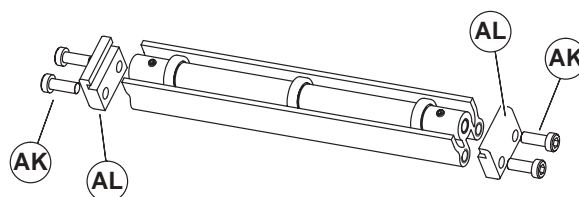

Figure 14
1. Locate return rollers. Exploded view shown in Figure 14.
2. Remove screws (Figure 14, item AK) and clips (AL) from roller assembly.